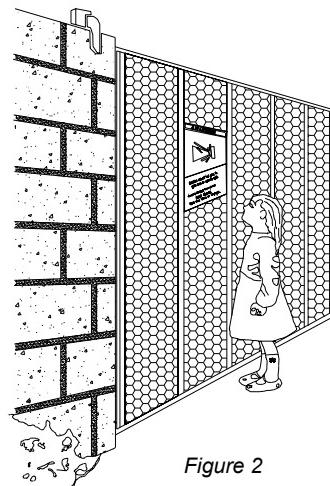

Figure 2
- For ORNAMENTAL "GRILL TYPE" GATES (or any other type of open gate where a handhold or toehold may be achieved), injuries may occur when people put arms through the openings or children "ride" the gate by standing on the bars and holding on to the gate. THIS POTENTIAL HAZARD CAN BE MINIMIZED BY INSTALLING A MESH SCREEN ON THE GATE. Allstar strongly recommends the entire gate and adjacent fence area the gate covers when open be meshed or guarded such that a handhold or toehold cannot be achieved. See Figure 2.